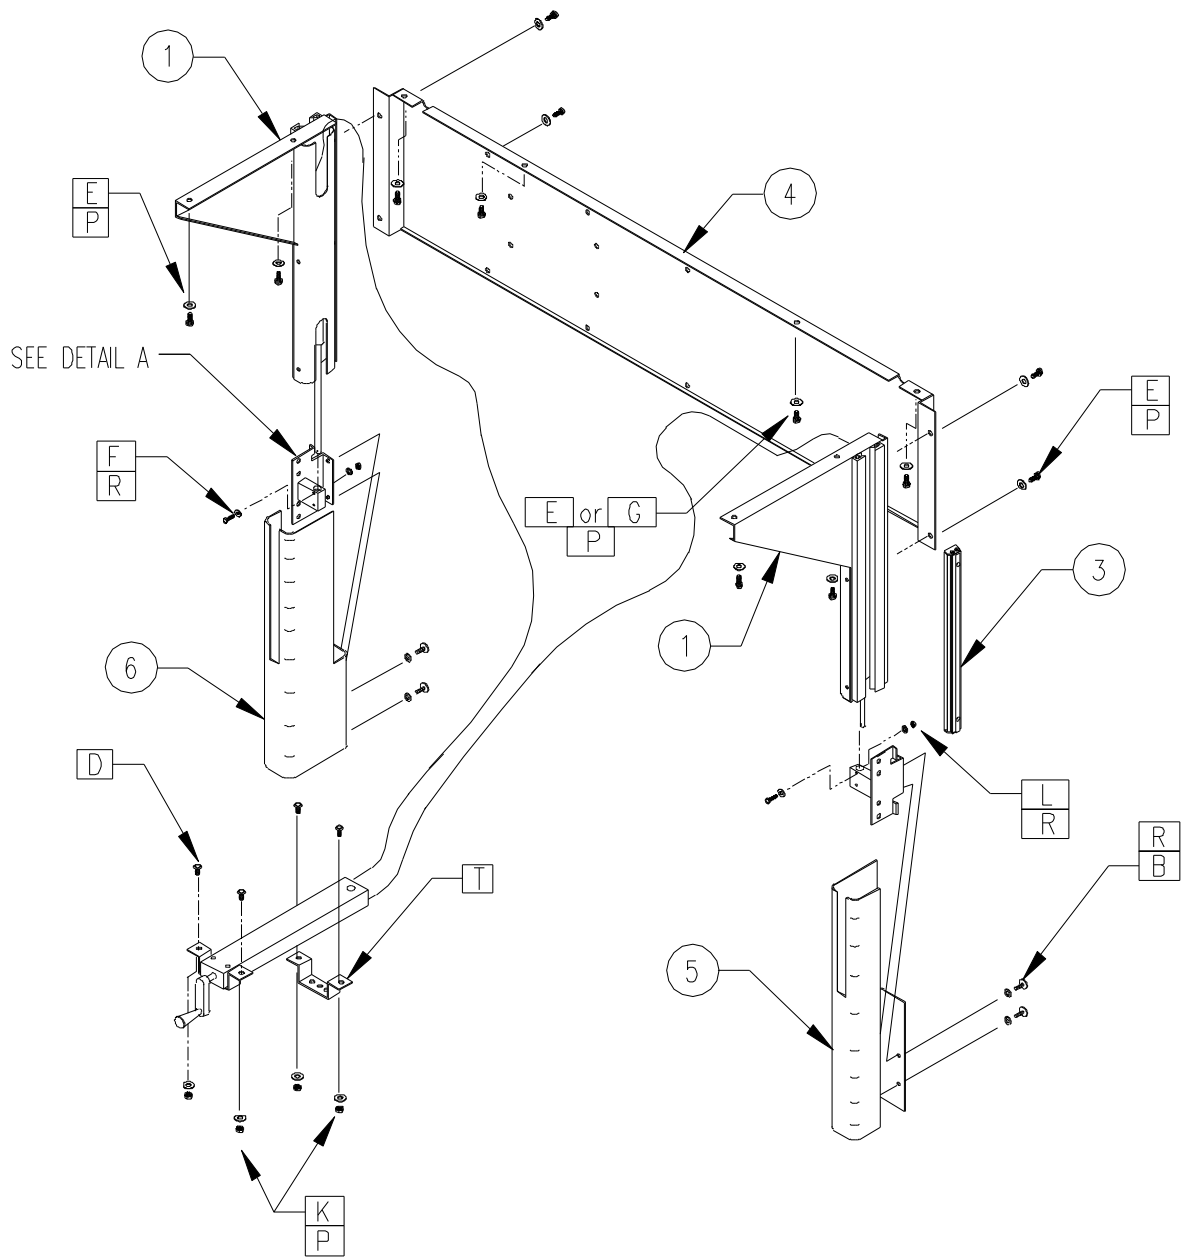
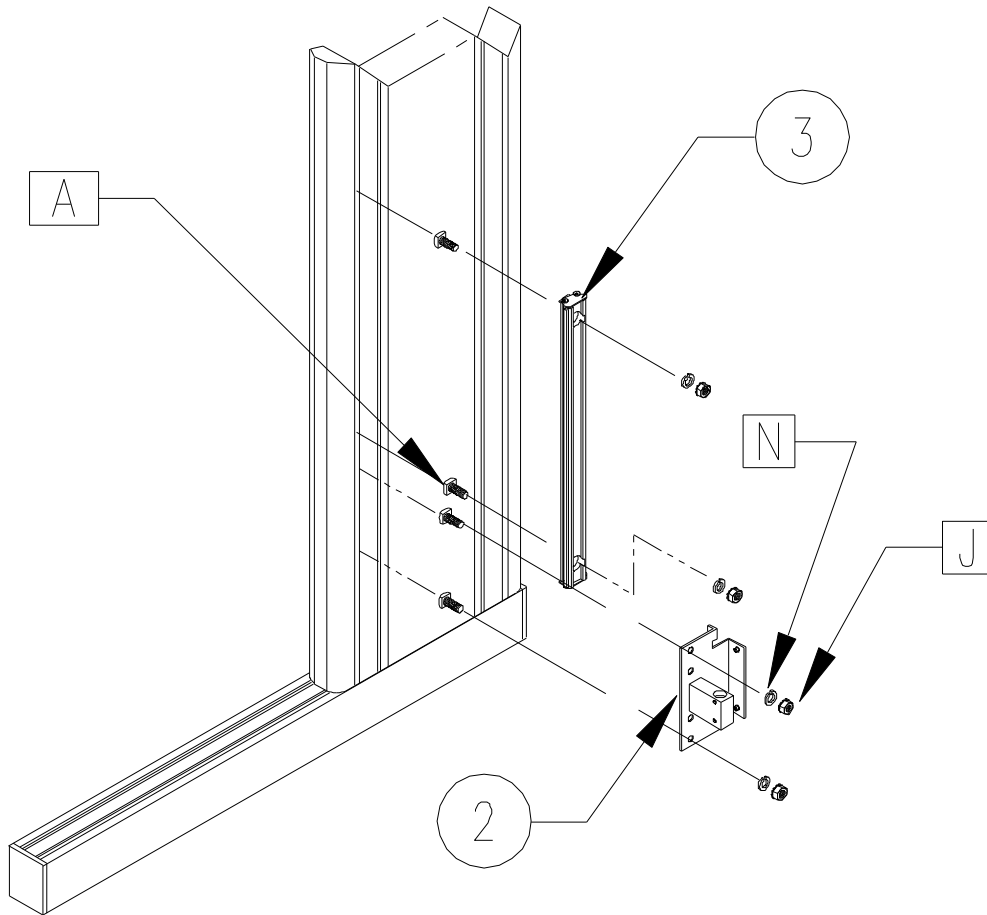

Figure 1
Figure 3
If the bench has a standard or flip-up ergonomic footrest, the footrest brackets need to be installed onto the uprights before mounting the cylinder support brackets shown in figure 3 on page 5, item #2. For footrest assembly instructions refer to the Dimension 4 bench assembly instructions.
STEP 3: The location of the bottom of the cylinder support brackets for a 30" worksurface starting height is 7.5" from the floor. If your starting height is more or less than 30" add or subtract the difference in starting height to or from 7.5" to locate the cylinder support brackets on the uprights. **EXAMPLE:** for a worksurface starting height of 28" subtract 2" from 7.5" and set the brackets at 5.5" from the floor. Attach the cylinder support brackets shown in Figure 3 item #2, to the uprights using 5/16-18 x .75 square head bolts, 1/4 flat washers, and 5/16 hex keps nuts and tighten the nuts. **DO NOT OVER TIGHTEN.**
STEP 4: Remove the extruded guide assemblies, item 3 shown in Figure 3, from the worksurface support assemblies item 1 shown in Figure 1 on page 3. Attach the extruded guide assemblies to the uprights using 5/16-18 square head bolts, 1/4 flat washers, and 5/16-18 keps nuts. Slide the guide assembly down to the top of the cylinder support bracket and tighten the nuts. **DO NOT OVER TIGHTEN.**